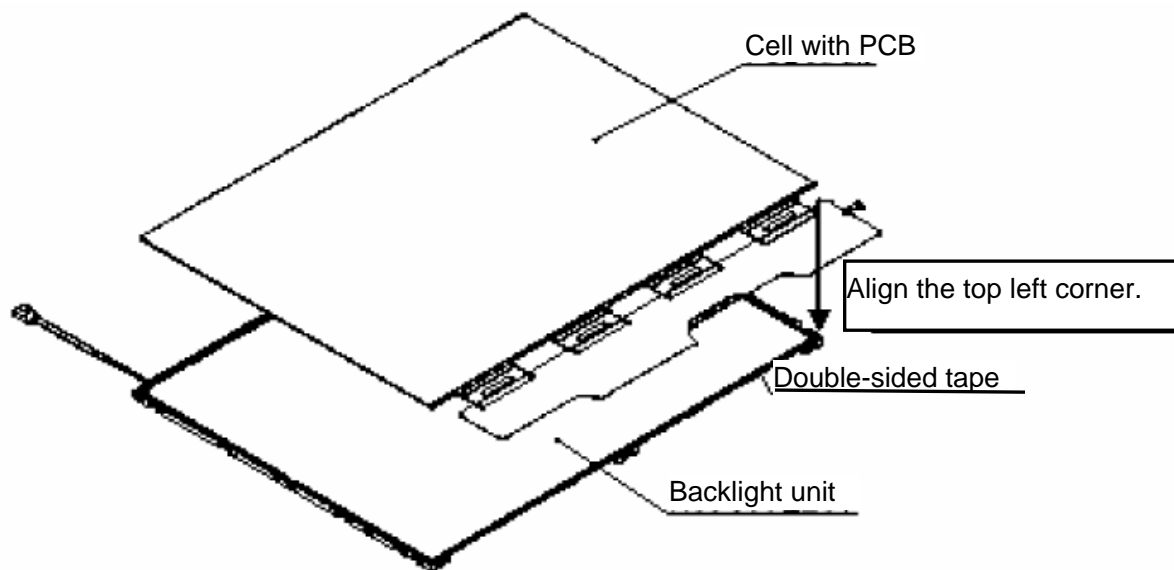

Figure 4-75 Replacing TMD fluorescent lamp (XGA) (7)
1. Remove the release paper of the double-sided tape at the upper of the backlight unit. (See Figure 4-75)
CAUTION: (1) Align the top left corner of the cell with the corresponding corner of the backlight unit, as indicated in Figure 4-75.
(2) Be careful not to damage the TAB.